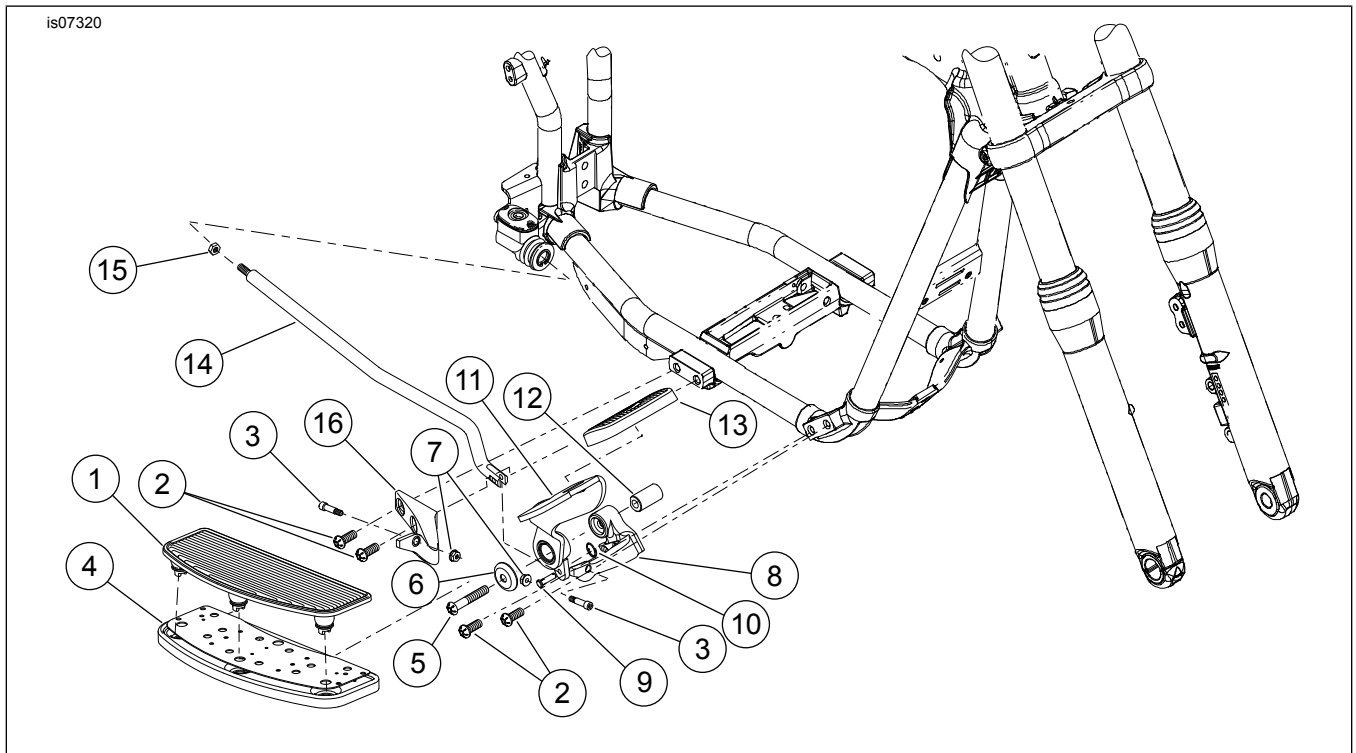

Figure 5. Dyna Rider Footboard Kit
15. See Figure 5. Place pad (1) into position on footboards (4). From bottom of footboards, use pliers to pull rubber anchors through holes in footboards.
1. See Figure 5 and service manual. Remove the right side rider footrest fasteners. Discard the fasteners.
2. Loosen the brake rod jam nut (15) at the rear brake master cylinder.